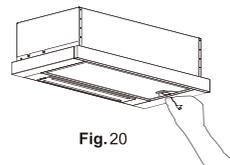

Fig.20
1. Pull down the latch of filter.(Fig.20)